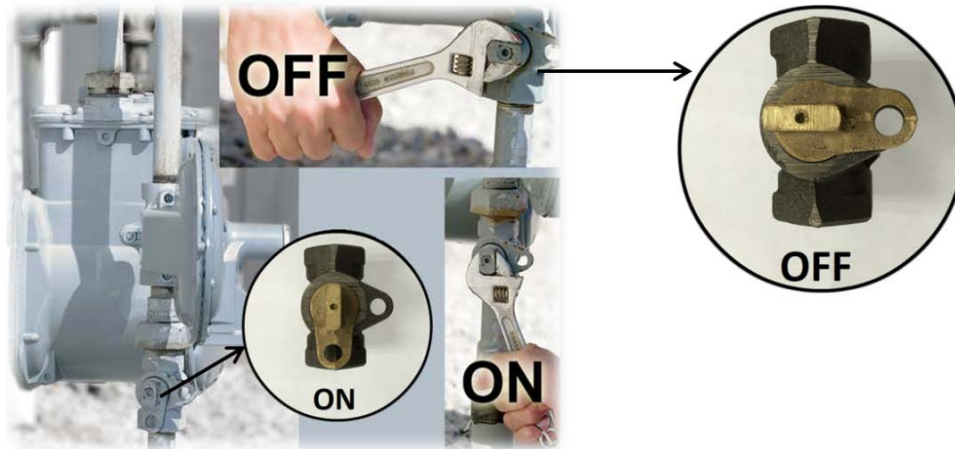

Figure 7: Off and On positions of a service valve.
- b. Give the service valve a very slow quarter turn to fully close the valve. See *Figure 7* for service valve **On** and **Off** positions. Ensure that the complete valve plug is turning.